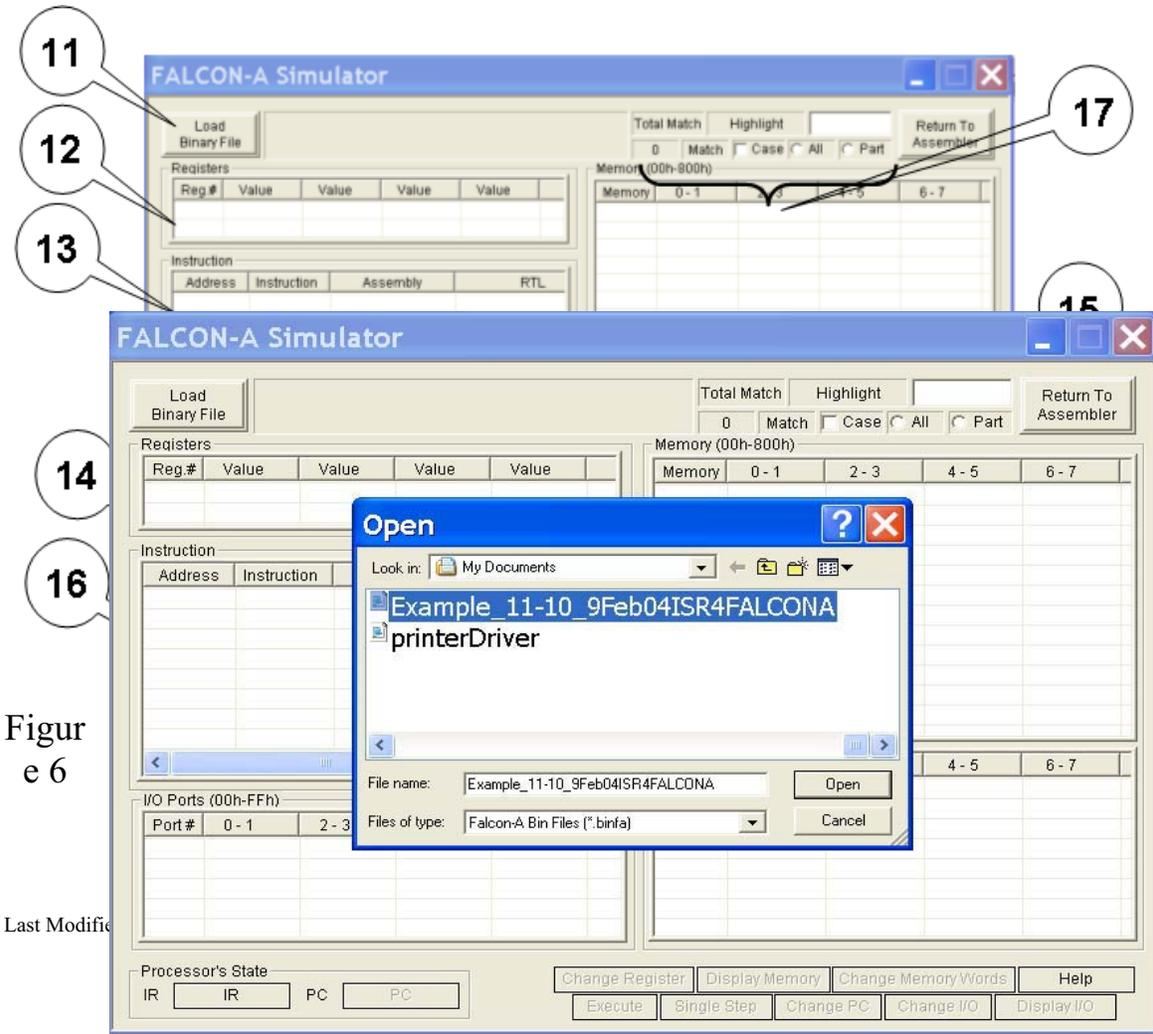

Figure 6
Figure 6 shows a snapshot of the FALCON-A Simulator. This tool loads a FALCON-A binary file with a (.binfa) extension and presents its contents into different areas of the simulator. It allows the user to execute the program to a specific point within a time frame or just executes it, line by line. It also allows the user to view the registers, I/O port values and memory contents as the instructions execute.
Load Binary File: The button labeled as “11” in Figure 6, allows the user to choose and open a FALCON-A binary file with a (.binfa) extension. When a file is being loaded into the simulator all the register, constants (if any) and memory values are set.
Registers: The area labeled as “12” in Figure 6. enables, the user to see values present in different registers before during and after execution.
Instruction: This area is labeled as “13” in Figure 6 and contains the value of PC, address of an instruction, its representation in Assembly, the Register Transfer Language, the op-code and the instruction type.
I/O Ports: I/O ports are labeled as “14” in Figure 6. These ports are available for the user to enter input operation values and visualize output operation values whenever an I/O operation takes place in the program. The input value for an input operation is given by the user before an instruction executes. The output values are visible in the I/O port area once the instruction has successfully executed.
Memory: The memory is divided into 2 areas and is labeled as “15” in Figure 6, to facilitate the view of data stored at different memory locations before, during and after program execution.
Processor’s State: Labeled as “16” in Figure 6, this area shows the current values of the Instruction register and the Program Counter while the program executes.
Search: The search option for the FALCON-A simulator is labeled as “17” in Figure 6. This feature is similar to the way the search feature of the FALCON-A Assembler works. It offers to highlight the search string which goes as an input, with the “All “ and “ Part “ option. The results of the search are highlighted in the color yellow. It also indicates the total number of matches.
The following is a description of the options available on the button panel labeled as “18” in Figure 6.
- To start the simulator, click on the start simulation button labeled as “6”. This will open the dialog box shown in Figure 6.